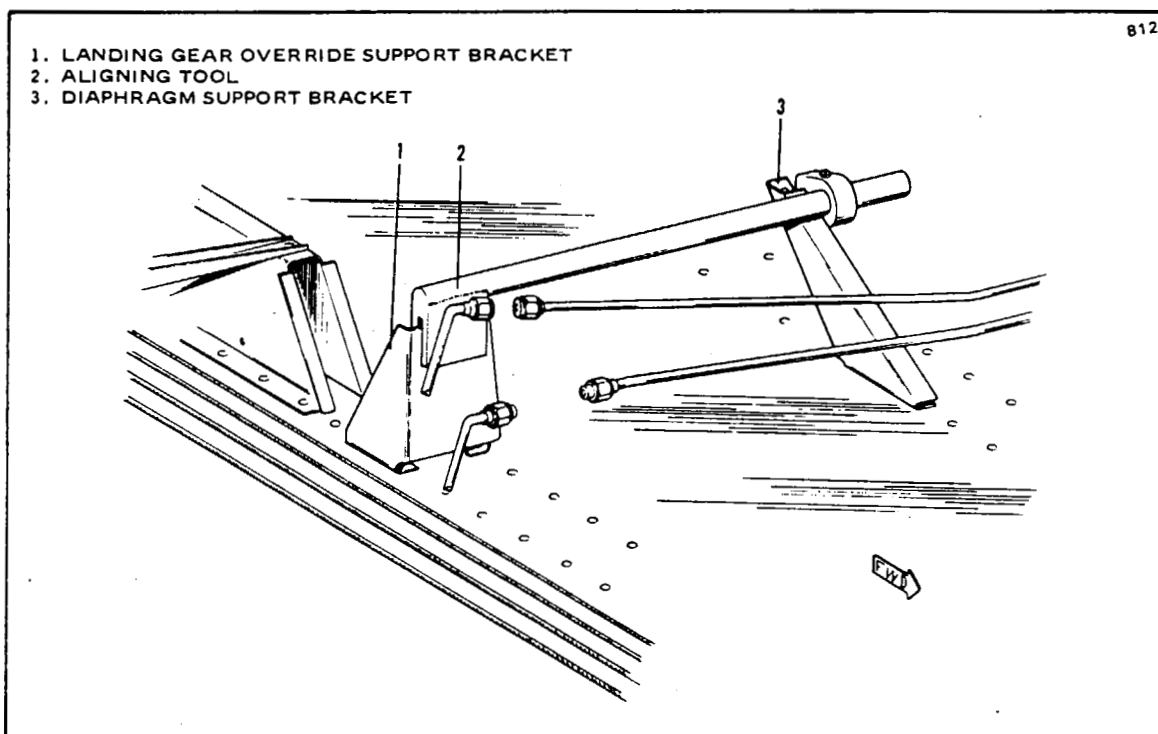

Figure 5A-5. Checking Aligning Brackets of Gear Back-Up Extender Actuator
**5A-13. INSTALLATION OF GEAR BACK-UP EXTENDER ACTUATOR ASSEMBLY.** (Refer to Figure 5A-6.)